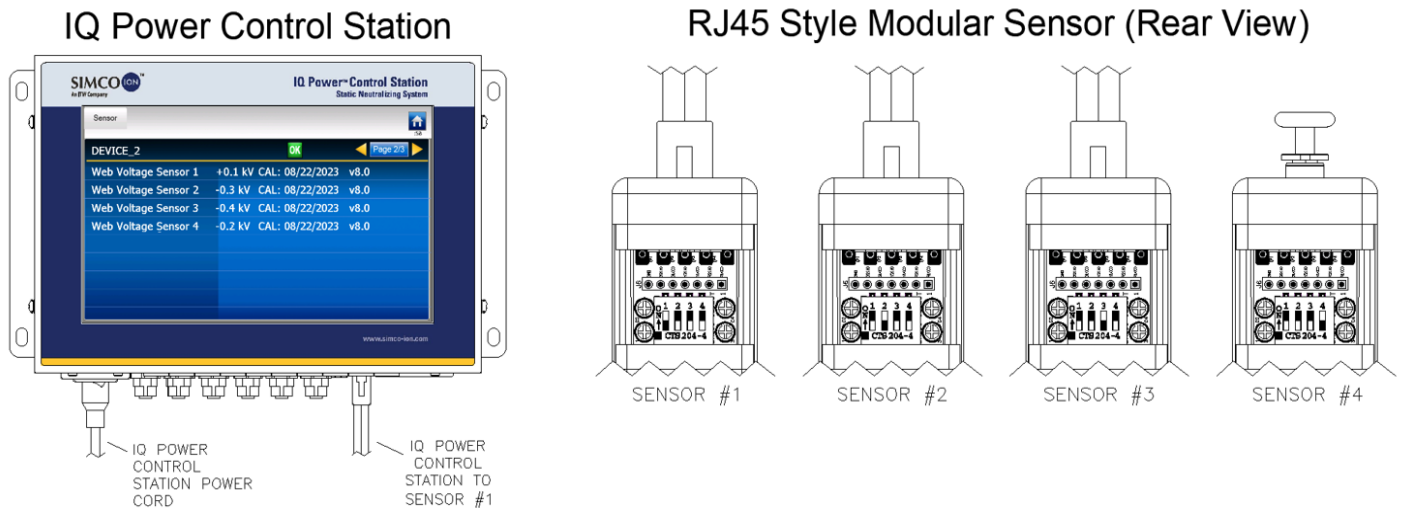

Figure 4. Correct Sensor Numbering of Four Modular Sensors
4. Using the rear channel cover as a guide, set the Sensor Number on each of the new sensors. The available sensor numbers vary from Sensor #1-Sensor #4, which can be set using the dipswitch found on the sensor, however, it is important to note that there can only be one of each Sensor Number per one Control Station address. See Figure 4 below.